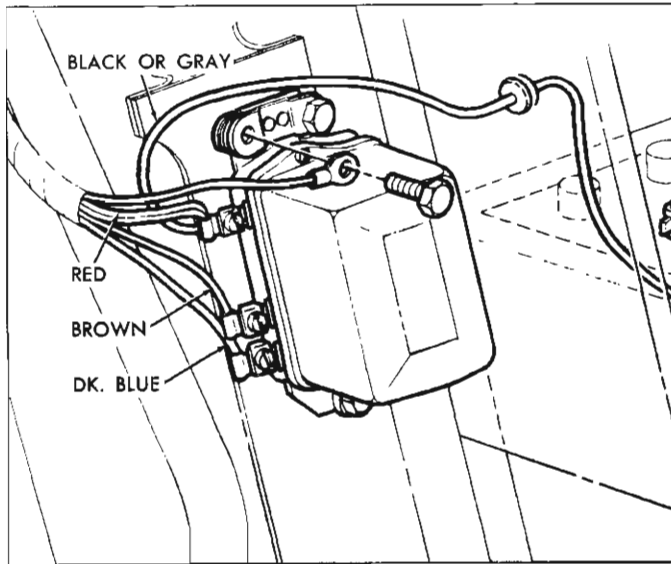

Fig. 34—Regulator Installed
2. Attach regulator leads to proper terminals (see fig. 34).